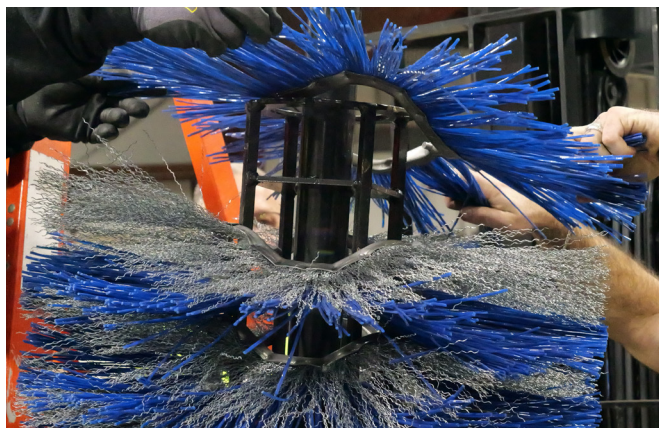

Figure 4
3. Install additional wafers with the convolutions (waves) opposing each other to expand the broom [Figure 4].